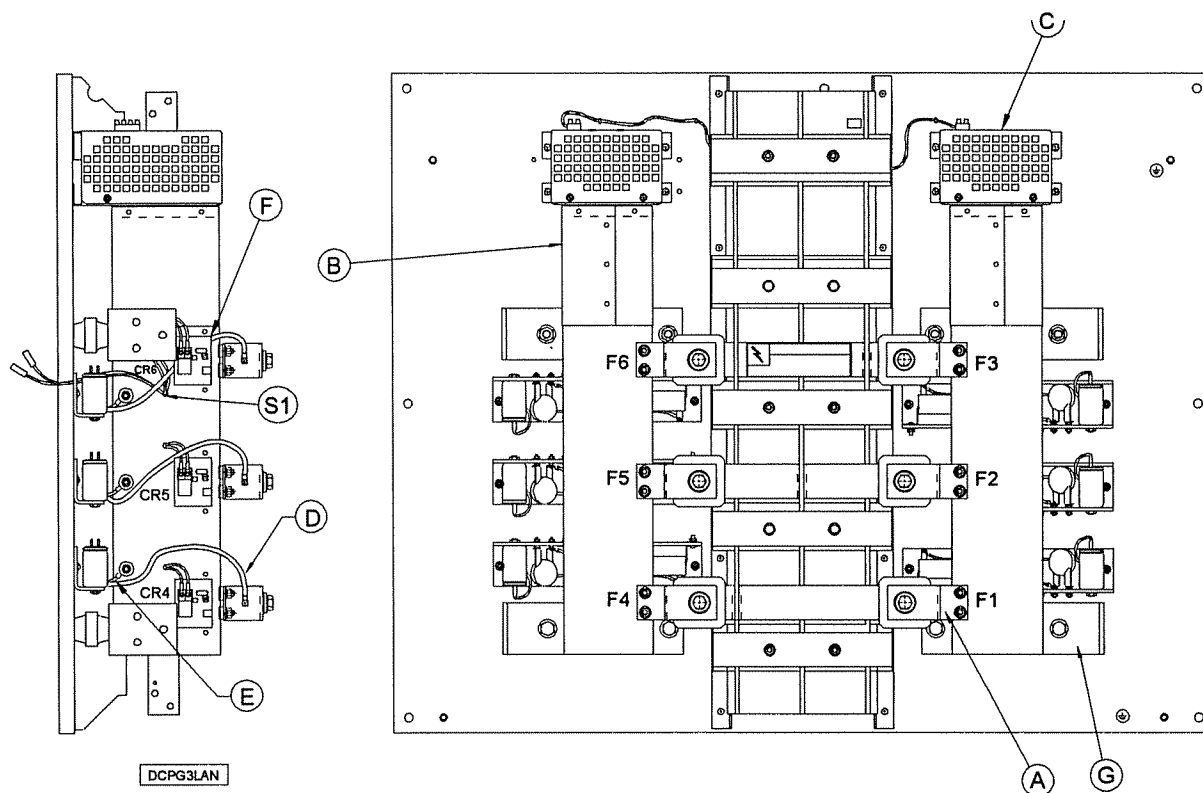

FIGURE 7-6. ARMATURE BRIDGE ASSEMBLY, 800 AMP
3. Refer to Figure 7-6.
4. Remove bus bar between thyristor module and fuses (A), and the AC snubber connection (D), three locations.
6. Remove air duct insulator (B) between fan and thyristor module. (The air duct is Velcroed together on top.)